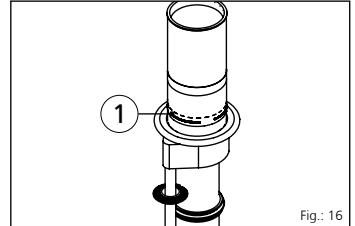

Fig.: 16
- On the ESH Basic-FUBO-GK there is an **"unfinished floor upper edge"** label/mark (see Fig.: 16).
Legende zu Abb.: 16